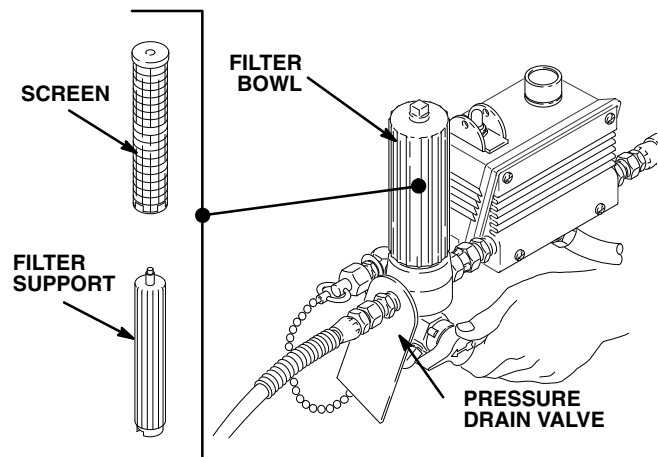

Fig. 8
3. Remove the spray tip from the gun. Remove the filter bowl and screen; see manual 307–273. Clean the screen separately and install the bowl without the screen to flush it. See Fig. 8.